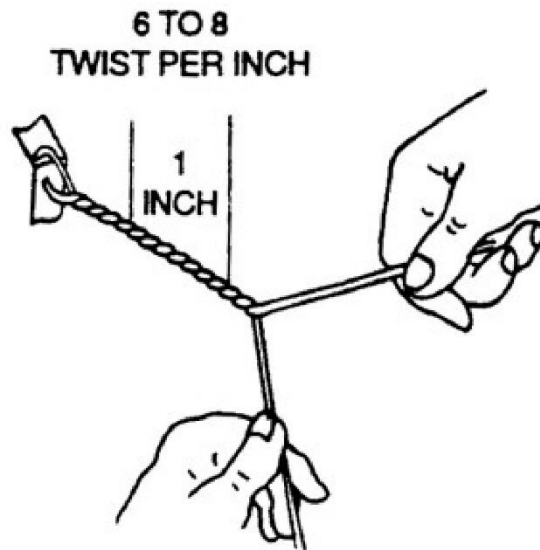

Figure 8-2: Double Twist Method by Hand
2. **DOUBLE TWIST METHOD** – The double twist method of safety-wiring shall be used as the common method of lock wiring. All safety wire applications excluded from the single wire method shall employ the double twist method. See Figure 8-2.